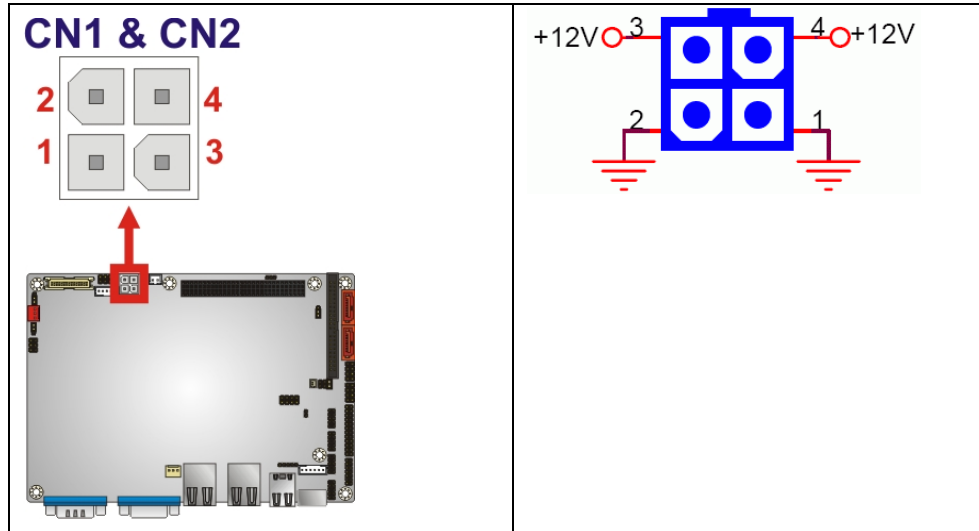

Figure 4-6: ATX Power Connector Location
- CN Location:** See **Figure 4-6**